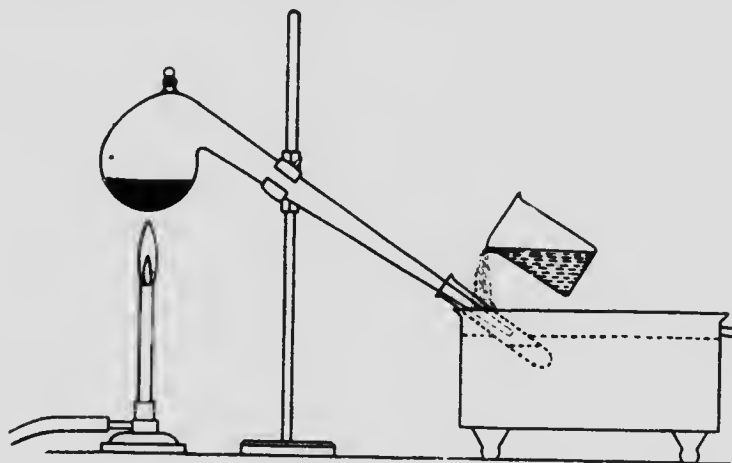

FIG. 37.
**Sketch.**— Fig. 37.
**Experiments.**— Weigh 1 gm. of potassium or sodium bromide, 2 grms. of manganese dioxide and place them in a **dry retort**. Add by means of a thistle tube 20 cc. of dilute sulphuric acid (11:8). Arrange the apparatus as shown in Fig. 37. Warm gently until no more bromine is given off. Cool the test tube in the pneumatic trough by pouring water over it.